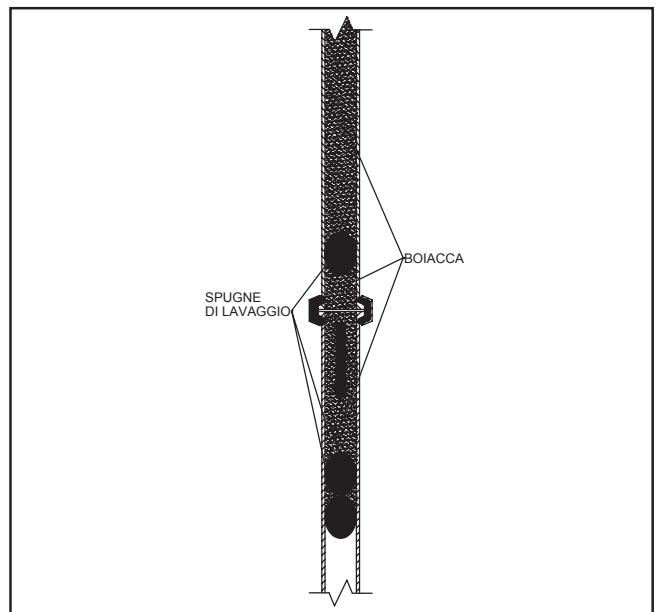

FIG.16
- introduce two pipe sponges into the first section of the piping (FIG. 16)